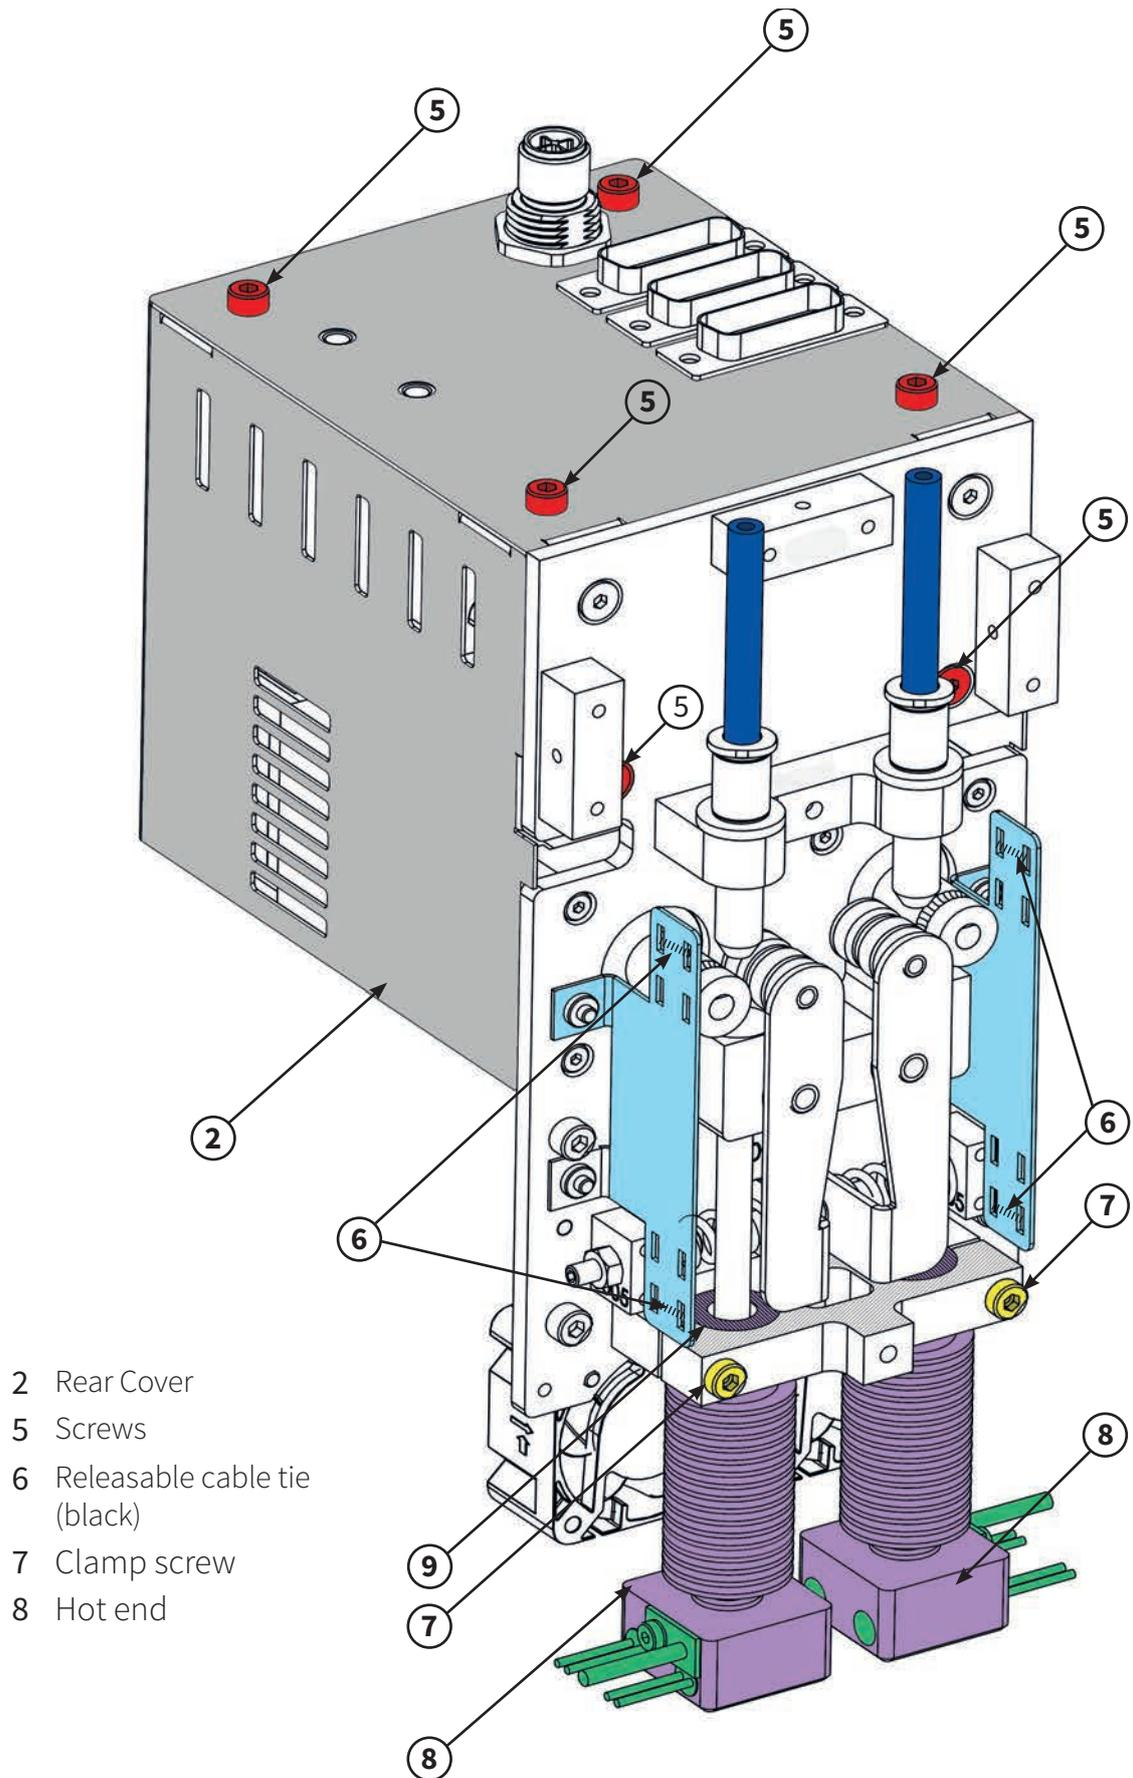

Fig. A-2: Extruder head without front cover
Load the filament roll holder (D) with the new filament roll. Load the filament end into the extruders heads filament guide (Fig A-2 (5)). Adjust the temperature on the interface if using a new filament material.
Load the filament roll holder **(D)** with the new filament roll. Load the filament end into the extruders heads filament guide (Fig A-2 **(5)**). Adjust the temperature on the interface if using a new filament material.